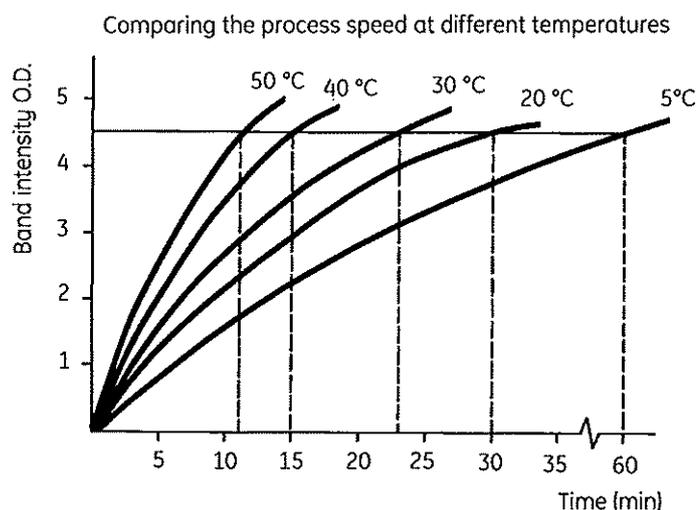

Fig 32. Comparing the rate at a process at 20 °C with the rate of that process at 5°, 30°, 40°, and 50 °C.
4. Draw a line parallel to the x-axis, across each curve at an appropriate O.D. or staining intensity, and read the time required for the reaction to reach this value at different temperatures. An example is shown in Figure 32.